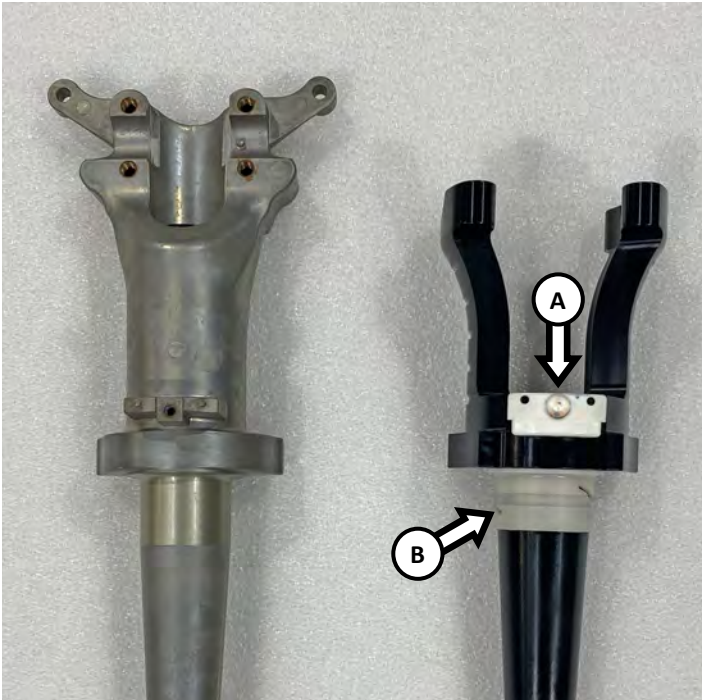

Figure 11
Remove steering shaft sensor magnet from OEM steering shaft. Discard screw. Install steering shaft sensor magnet onto supplied RIVA Billet Steering Shaft using supplied M5x10 BHCS & M5 flat washer (A). (See figure 11)
Transfer upper steering shaft bushing from OEM steering shaft to supplied RIVA Billet Steering Shaft (B). (See figure 11) **NOTE: Apply waterproof grease liberally to RIVA Billet Steering Shaft and outside of bushing.**